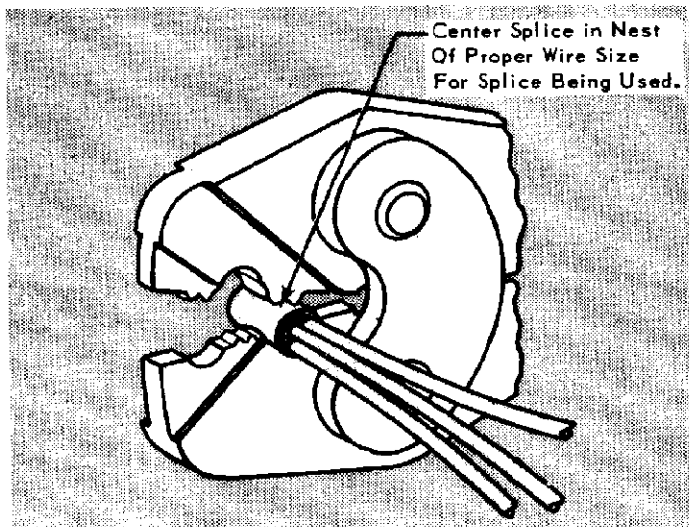

Fig. 4
- (d) Center Splice in Barrel Crimping Nest of Tool as shown in Figure 4.